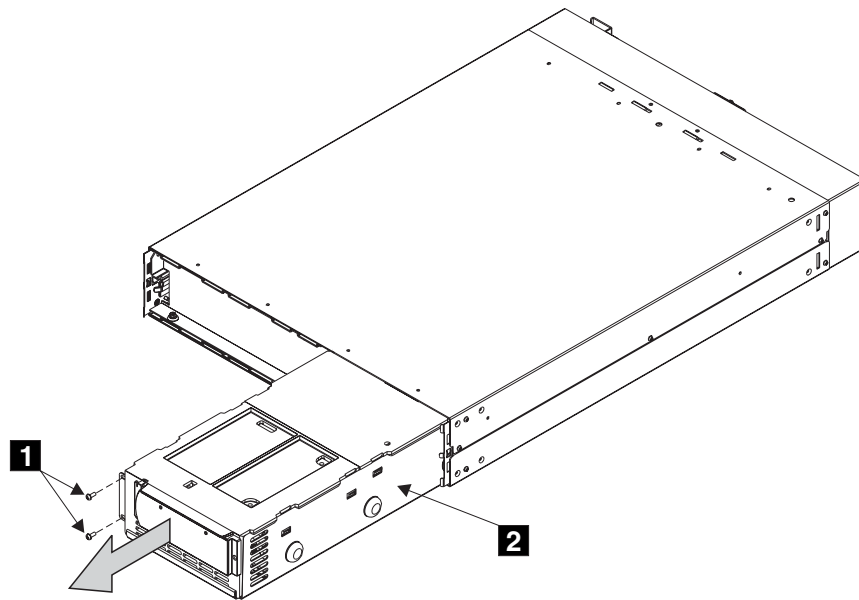

Figure 23. Removing the uninterruptible power supply electronics assembly
3. Remove the two screws **1**, (see Figure 23 on page 21).